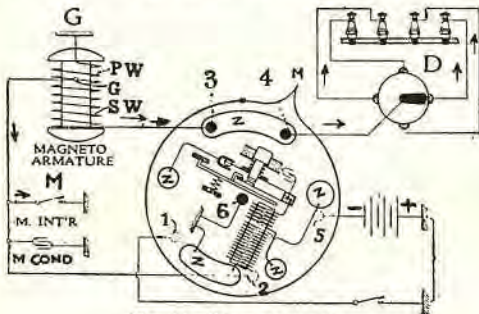

Fig. 22. Magneto position.
Note in Fig. 22 that the switch is now on (M) magneto side and there is but one closed circuit; it was made by connecting (3) and (4) on switch plate (16) with bus-bar (Z) on rear of coil. Note all other points of contact are open, including the magneto short-circuiting or grounding wire connected with (2).